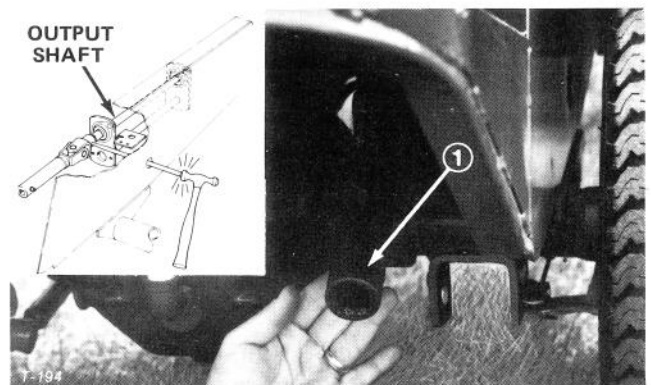

Figure 14
2. Remove five wheel nuts and slide left wheel off axle to expose access hole inside of chassis (Fig. 14).
3. Push PTO lever forward until pulley and brake disengage. Align hole in PTO shaft with hole in chassis (Fig. 14).
4. Through access hole in chassis, drive roll pin out of PTO shaft and output shaft with pin punch and ball peen hammer (Fig. 14).